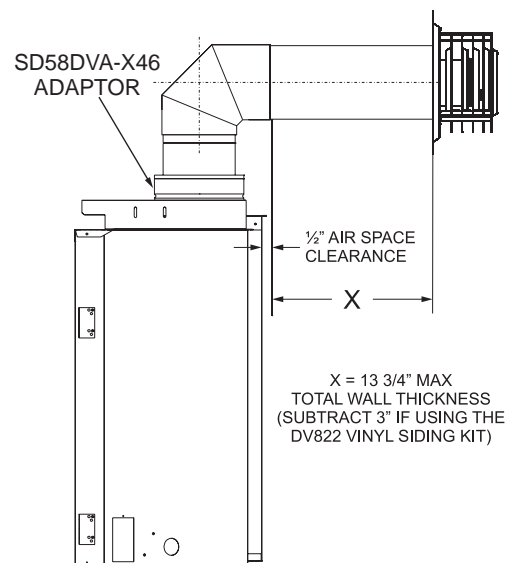

Figure 59
**NOTICE:** A SD58DVA-X46 adaptor must be used in conjunction with the DVVK4RE (top vent connection only). **See Figure 59.**
If wall depth exceeds 13 3/4" (349mm), extend system using 6 5/8" (168mm) x 4" (102mm) rigid venting (See Fireplace Instructions for approved lengths) **See Figure 59.**